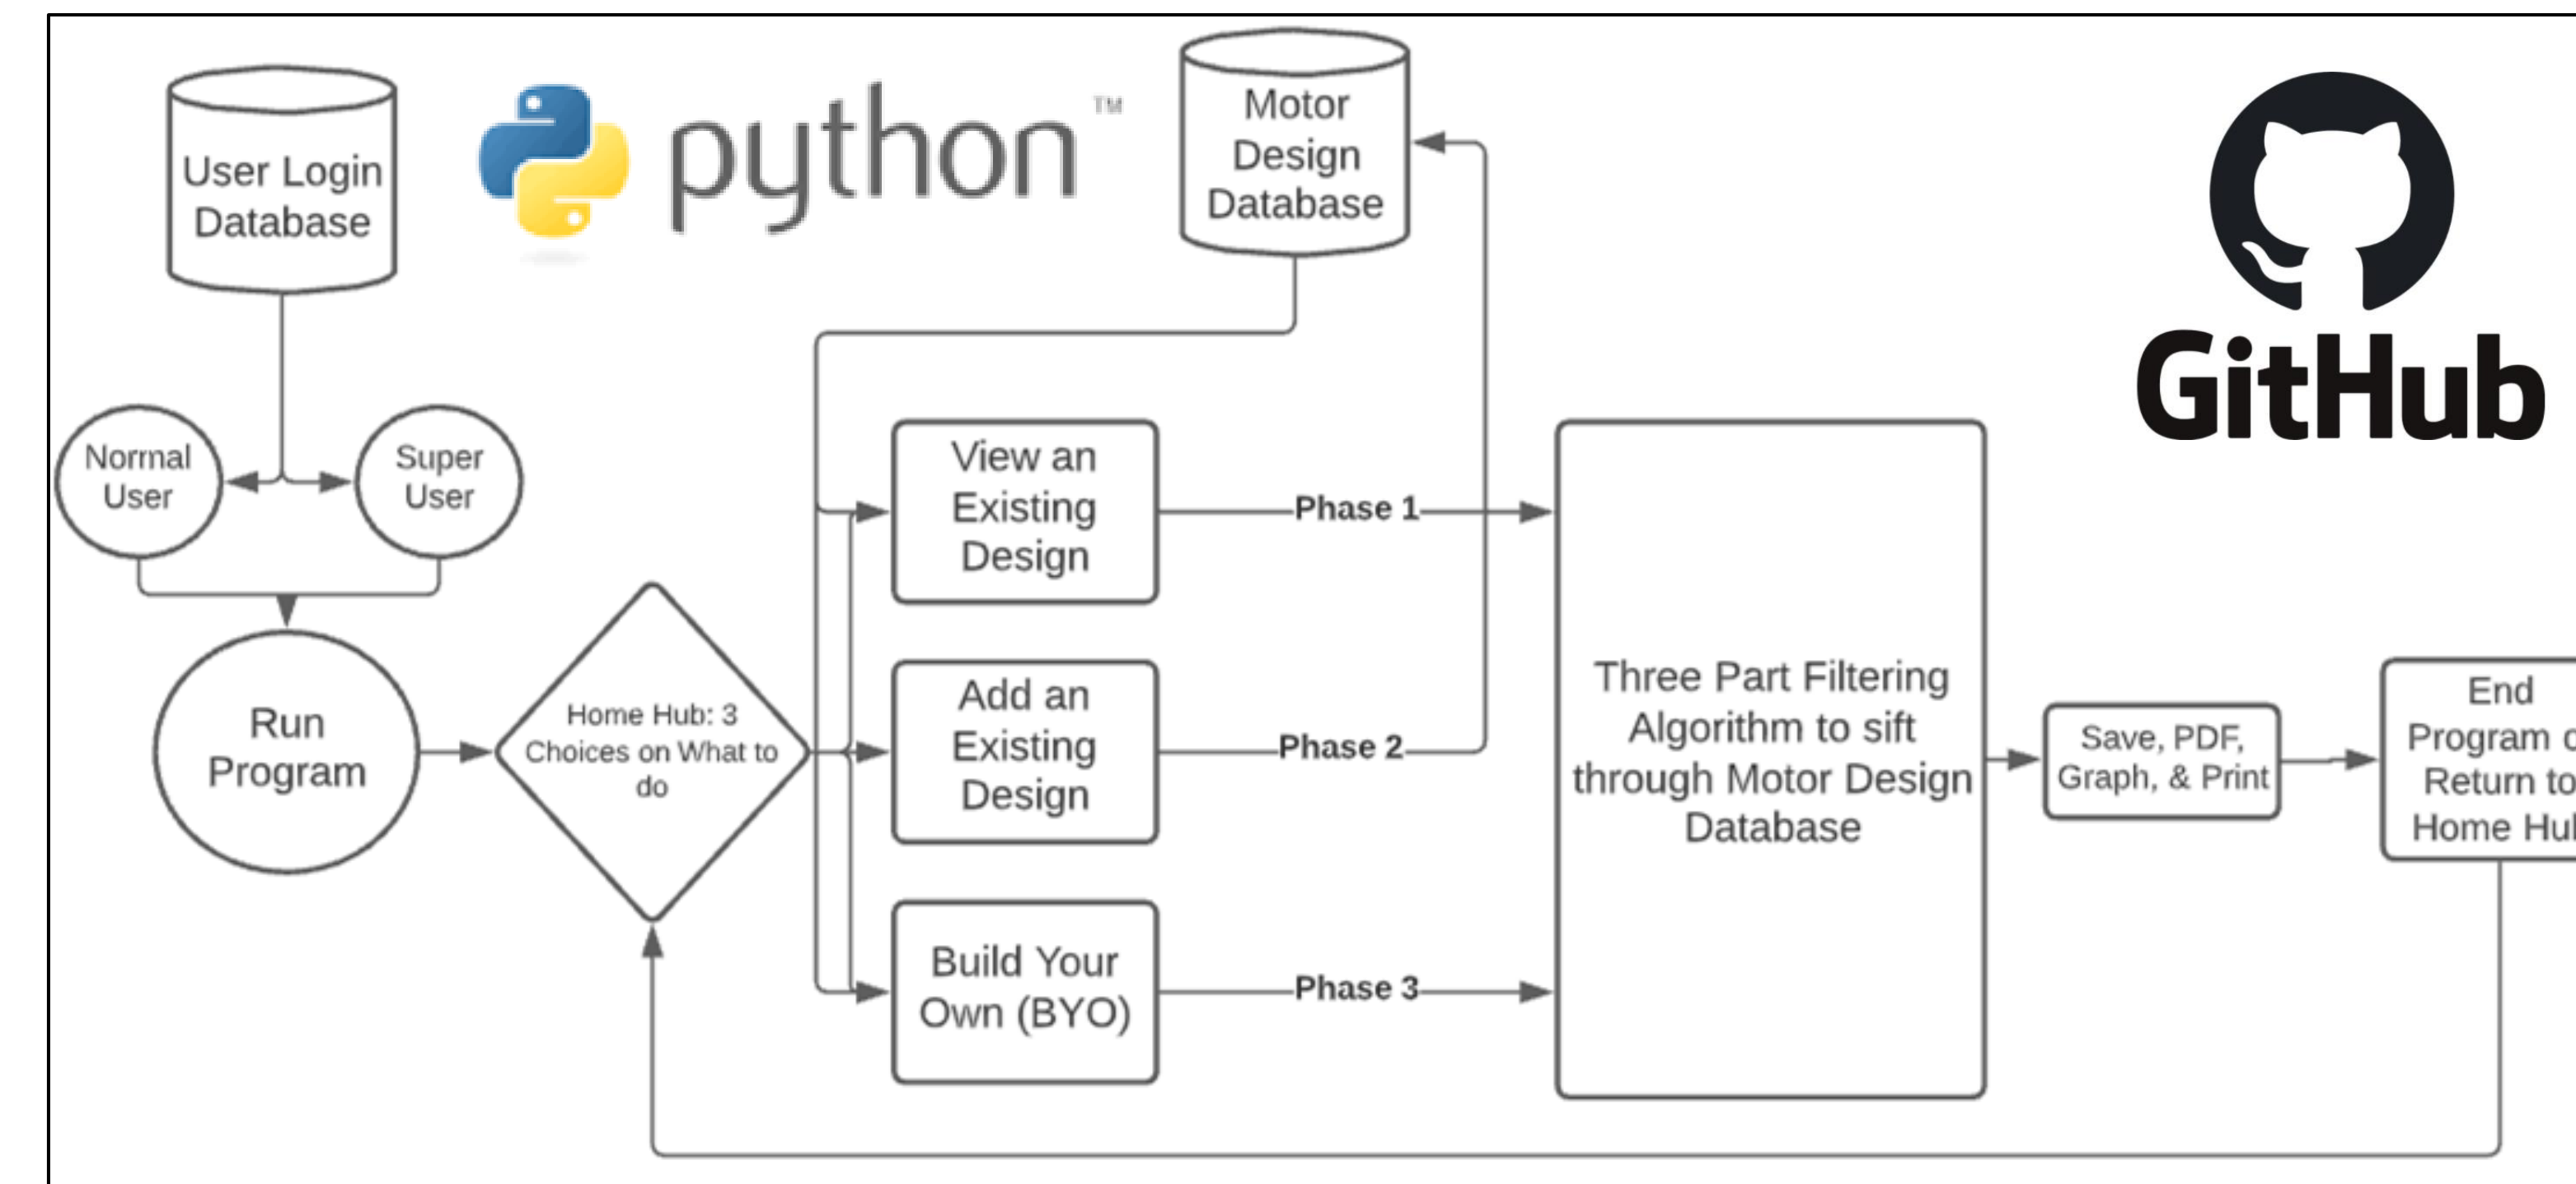

Figure 1 : Program Flow Chart
- Program Flow Chart Created. (Figure 1)